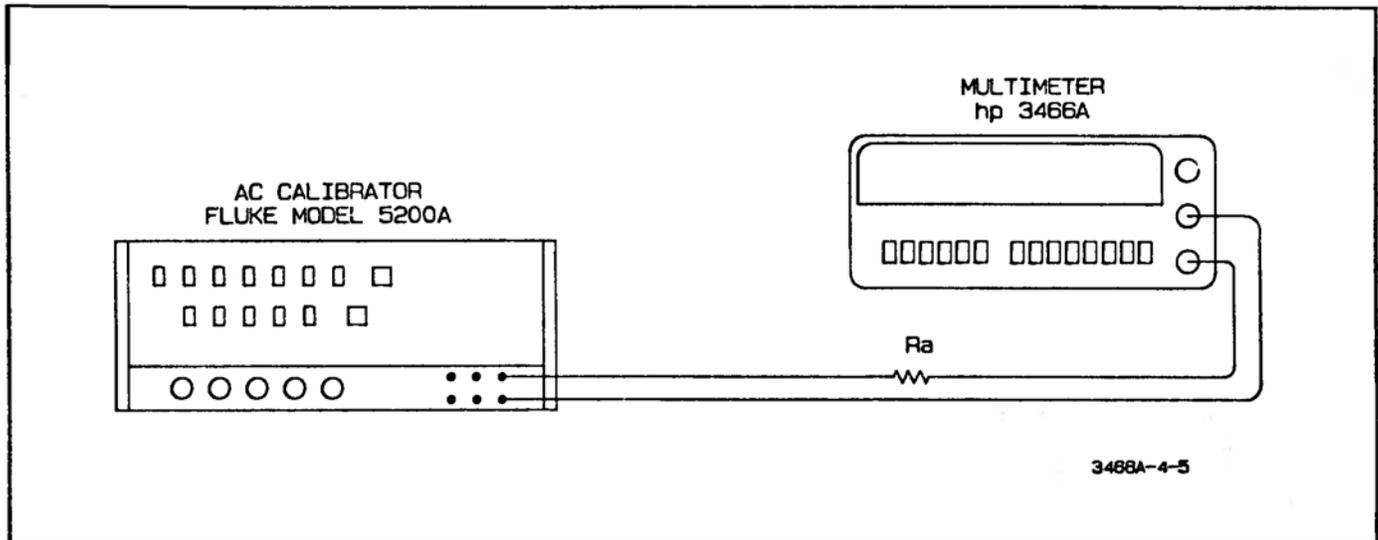

Figure 4-5. AC Ammeter Accuracy Test (200µA to 20mA Ranges)
- a. Connect the AC Calibrator to the 3466A as shown in Figure 4-5. Use the Resistor Decade Box to select the value of R_a .